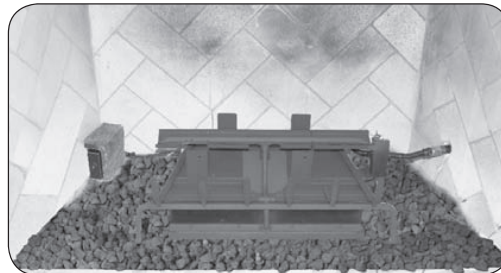

FIGURE 48
13. Spread the supplied lava granules on the floor of the fireplace, around the front and sides of the burner system. **(Figure 48)** The lava granules may be placed around the switch box. Leave the front of the switch box clear for control access.